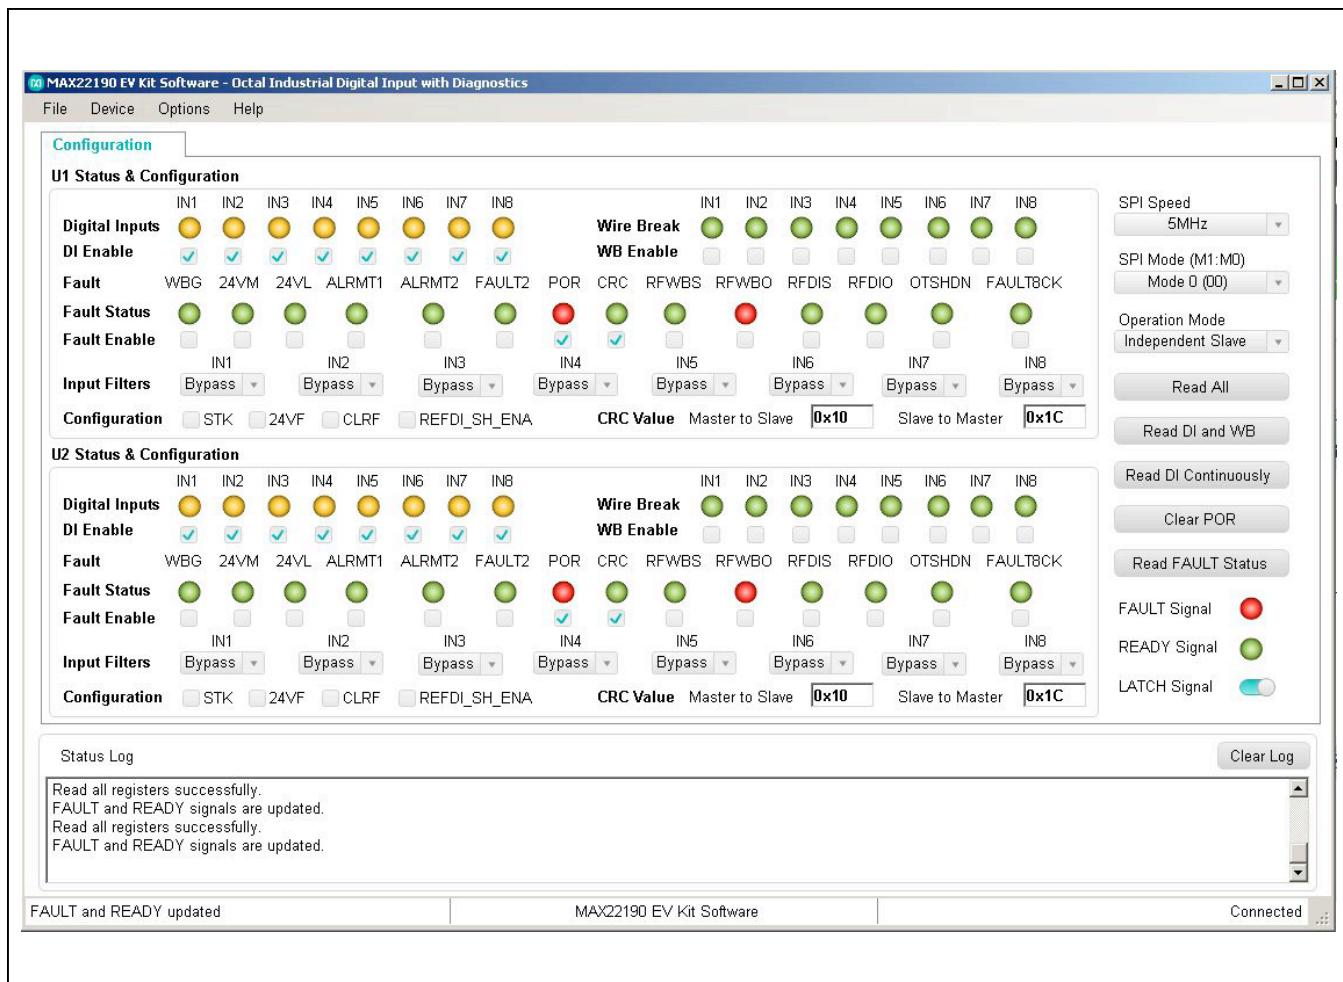
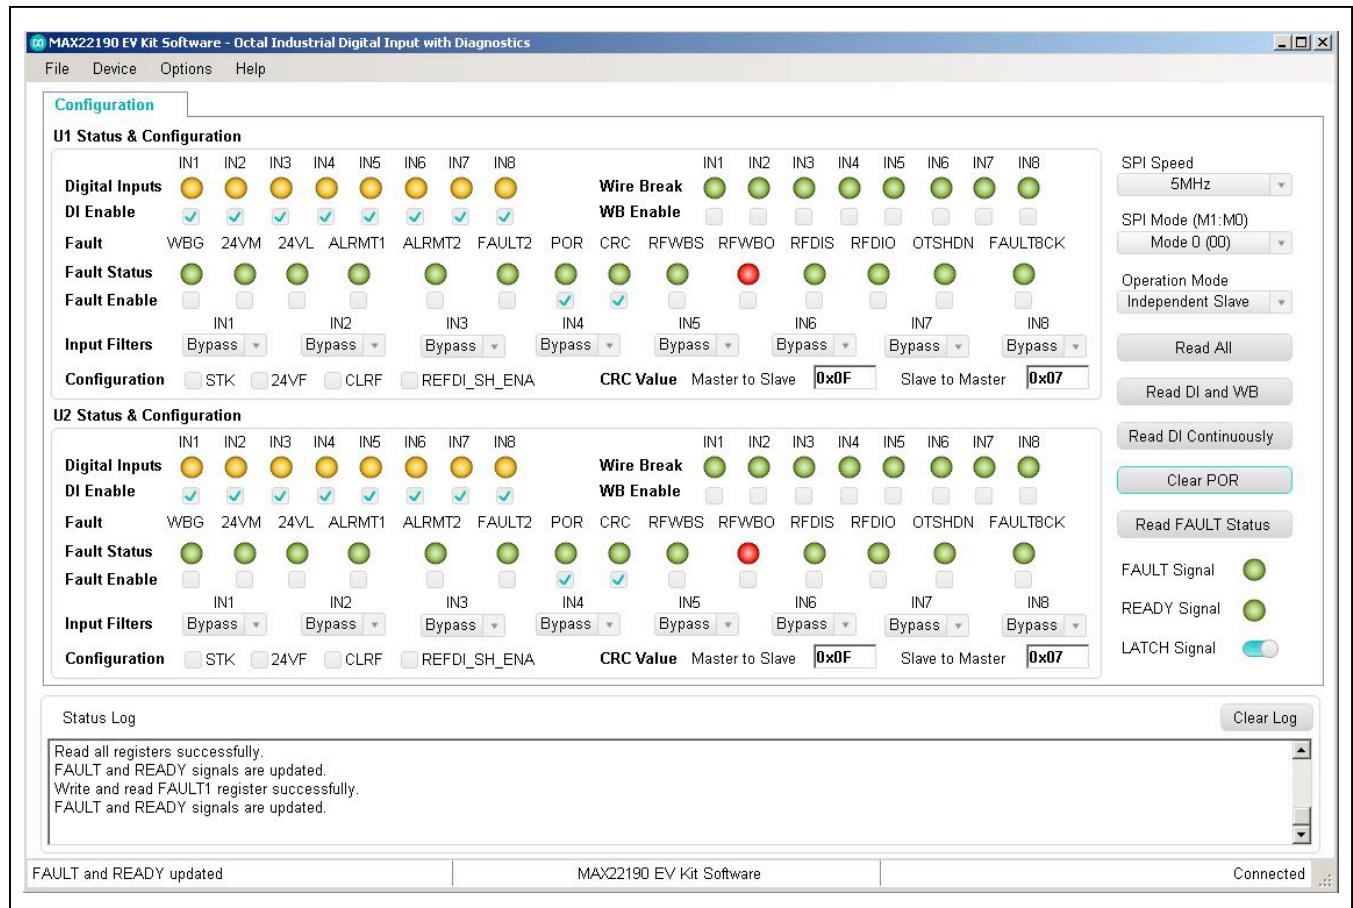

Figure 2. MAX22190 EV Kit Software Startup Window
Figure 3. MAX22190 EV Kit Software—Clear POR
- 11) Once the hardware is ready to use, launch the EV kit software by opening its icon in the **Start | Programs** menu. During the EV kit software launch, two message boxes are shown to indicate the default operation mode (Independent Slave mode), and U1 and U2 SPI mode (Mode 0). Click **OK** to close the message boxes. The EV kit software appears as shown in Figure 2.
- 13) Click **Clear POR** button. Observe that **POR** status lights for U1 and U2 are changed to green, and **FAULT Signal** status light is also changed to green in the **Configuration** tab as shown in Figure 3.
When the MAX22190 EV kit software starts, it automatically detects if the EV kit is connected to a PC and indicates it in the status bar at the bottom edge of the GUI. If the software does not recognize the USB2PMB2# adapter board, make sure that the software and all drivers are properly installed, check the USB connection, and go to the **Device** menu and select **Search for Hardware** option. When the EV kit is properly connected, the MAX22190 devices (U1 and U2) are read and all controls are updated (see Figure 2).
After power up, the MAX22190 **FAULT** pin is low and the POR bit in the FAULT1 register is set, indicating that a power-on-reset has happened and all registers are set to default (Figure 2). After clicking the **Clear POR** button, the GUI clears the POR bit in the FAULT1 register. The FAULT pin is pulled high and FAULTB1 or FAULTB2 LEDs are turned off after clearing the POR (Figure 3).